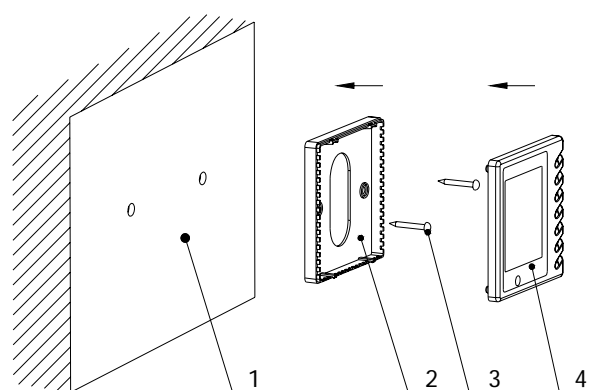

Fig. 3-5-3 Installation Sketch
- 3) Fig. 3-5-3 shall be followed no matter for open installation or for concealed installation. Firstly, refer to the spacing of mounting holes (60mm) on the base panel of Wired Controller and drill 2 holes (kept level) in the wall. Then, knock a wood plug into each hole and fix the base panel of Wired Controller onto the wall. After that, insert the communication wire into the control board. Finally, cover up the front panel of Wired Controller.